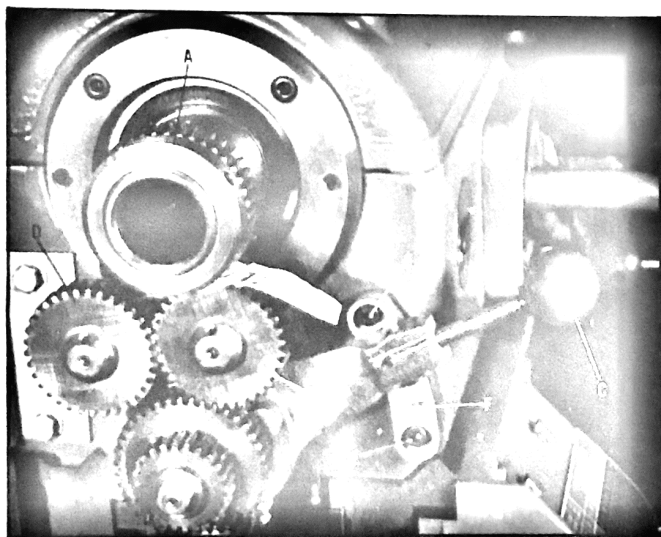

Fig. 23.
To establish back-lash between gears (A) and (B) Fig. 23, when the feed reverse lever (C) is in the up position, and between gears (A) and (D) when the feed reverse lever is in the down position, proceed as follows:
1. Place a strip of wrapping paper between gears (A) and (B) Fig. 23, and place the feed reverse lever in the up position.
3. If an adjustment is necessary, loosen two screws (E) Fig. 23, and move the bracket (F) until the desired back-lash is obtained. Then tighten two screws (E).
4. When proper back-lash between gears (A) and (B) Fig. 23 is obtained, proper back-lash will automatically be obtained between gears (A) and (D).